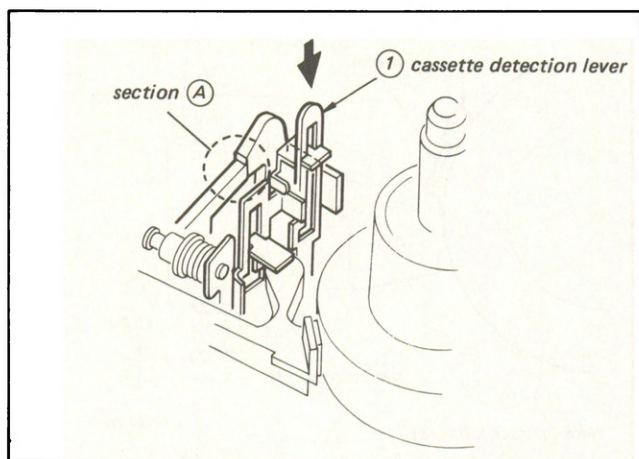
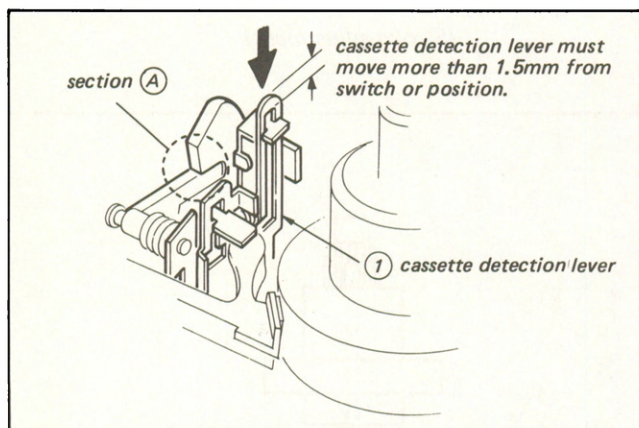

Fig. 3-17. Operation check of cassette-in switch
Fig. 3-18. Operation check of cassette-in switch
2. Set section (A) as shown in Fig. 3-17.
3. Confirm that the microswitch mounted on the underside of the machine does not turn on when the cassette detection lever (1) is pushed in the arrow direction.
4. Set section (A) as shown in Fig. 3-18.
5. Confirm with a click that the microswitch mounted on the underside of the machine turns on when the cassette detection lever (1) is pushed in the arrow direction.
6. Adjust the mounting position of cassette detection (1) so that it moves more than 1.5mm further from the point where the clock is heard.
Note: • The problem where the cassette-lift assembly does not lock occurs if the microswitch turns on in the condition shown in Fig. 3-17.
- The problem where the modes other than the EJECT mode cannot be set up occurs if the microswitch does not turn on in the state shown in Fig. 3-18.